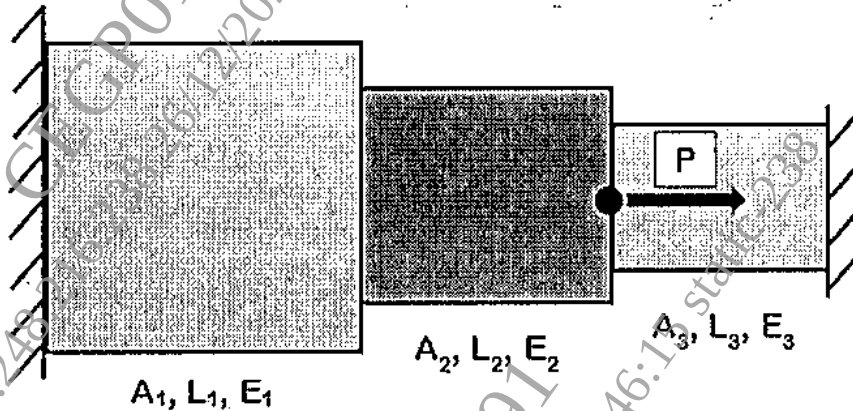

Figure 1. Q. 4
- Q4)** An axial stepped bar as shown in Figure 1, is axially loaded by force $P = 50\text{kN}$. Determine nodal displacement, reaction forces and stress in each element.